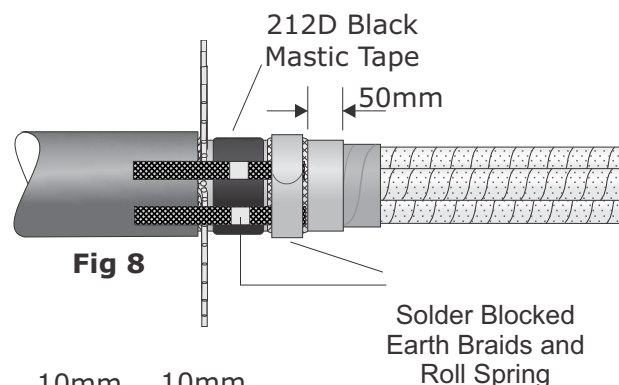

Fig 8
11. Tightly wrap (stretching to about half its width) a layer of tinned copper mesh 50mm from the lead cut, and using the constant force roll spring provided, secure the 2 x short earth braids as shown in Fig 8.
12. Apply a turn of 212D black tape behind the spring and lay the solder blocked braids upon it. Apply another turn over as shown in Fig 8+9.